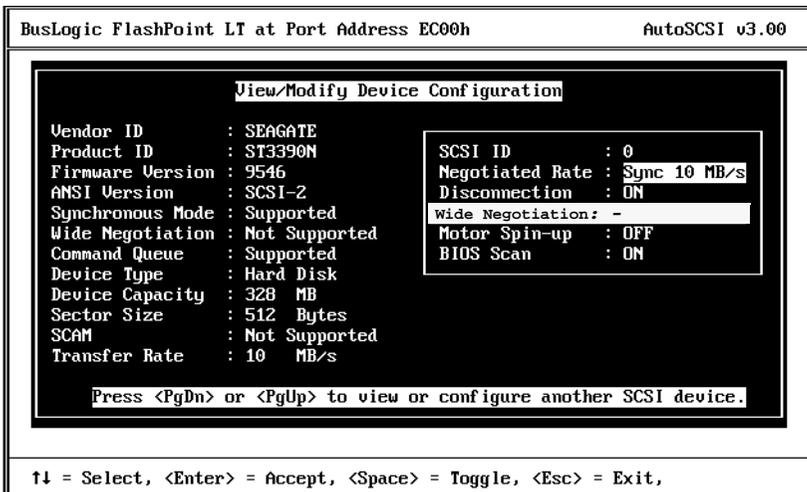

Figure 3-16. View/Modify Device Configuration Window
- Highlight *View/Modify Configuration* and press <Enter>. The View/Modify Device Configuration window appears (see Figure 3-16).